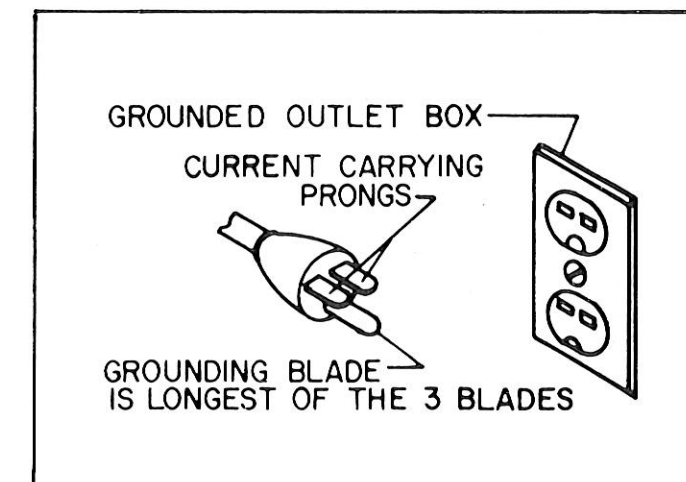

Fig 19
4. The 115 Volt power cord plug must be replaced with a 230 Volt power cord plug. The 230 Volt plug has two flat current-carrying prongs in tandem, and one round or "U" shaped longer ground prong, as shown in Fig. 19. This plug is used only with the proper mating 3-conductor grounding type receptacle, as shown in Fig. 19.